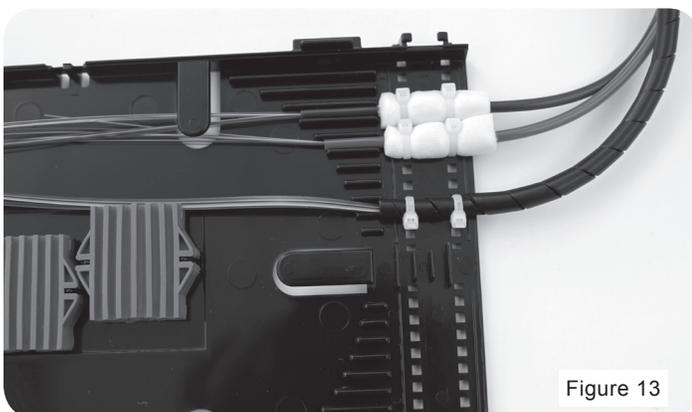

Figure 13
10. Place one wrap of foam spacer around the buffer tube at the 1.0" (25.4 mm) mark. Use two tie wraps to secure the buffer tube to the splice tray retention point. The foam spacer is not necessary when securing transportation spiral wrap to the splice tray. **(Figure 13)**